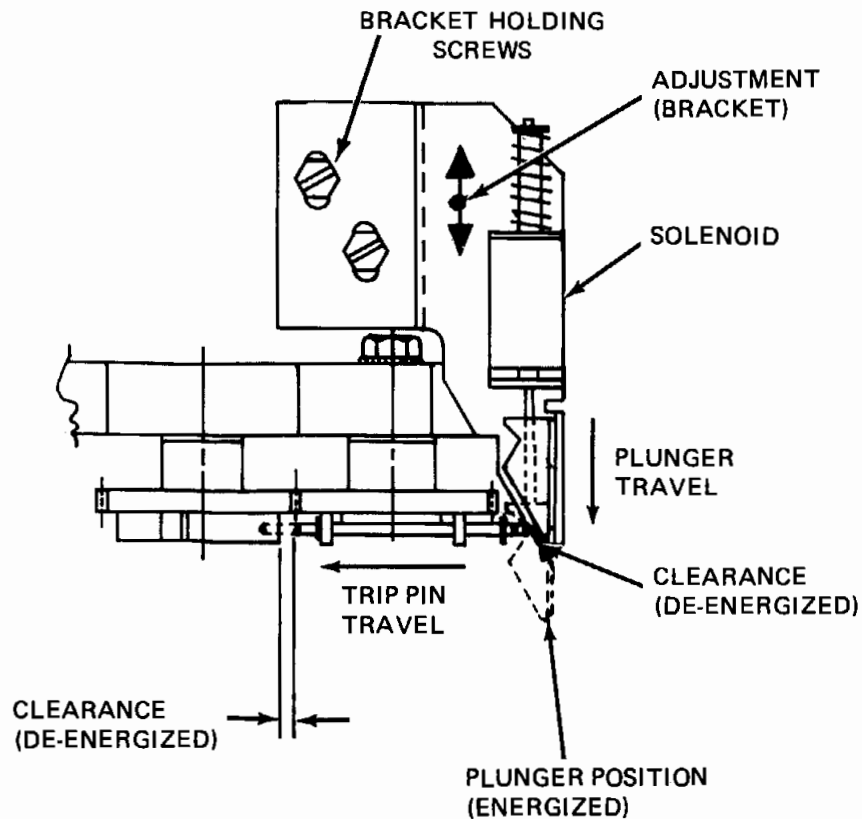

Figure 10a. Solenoid Position Adjust
D. Method of Adjustment (Refer to figure 10a) (Use Tool No. 2)